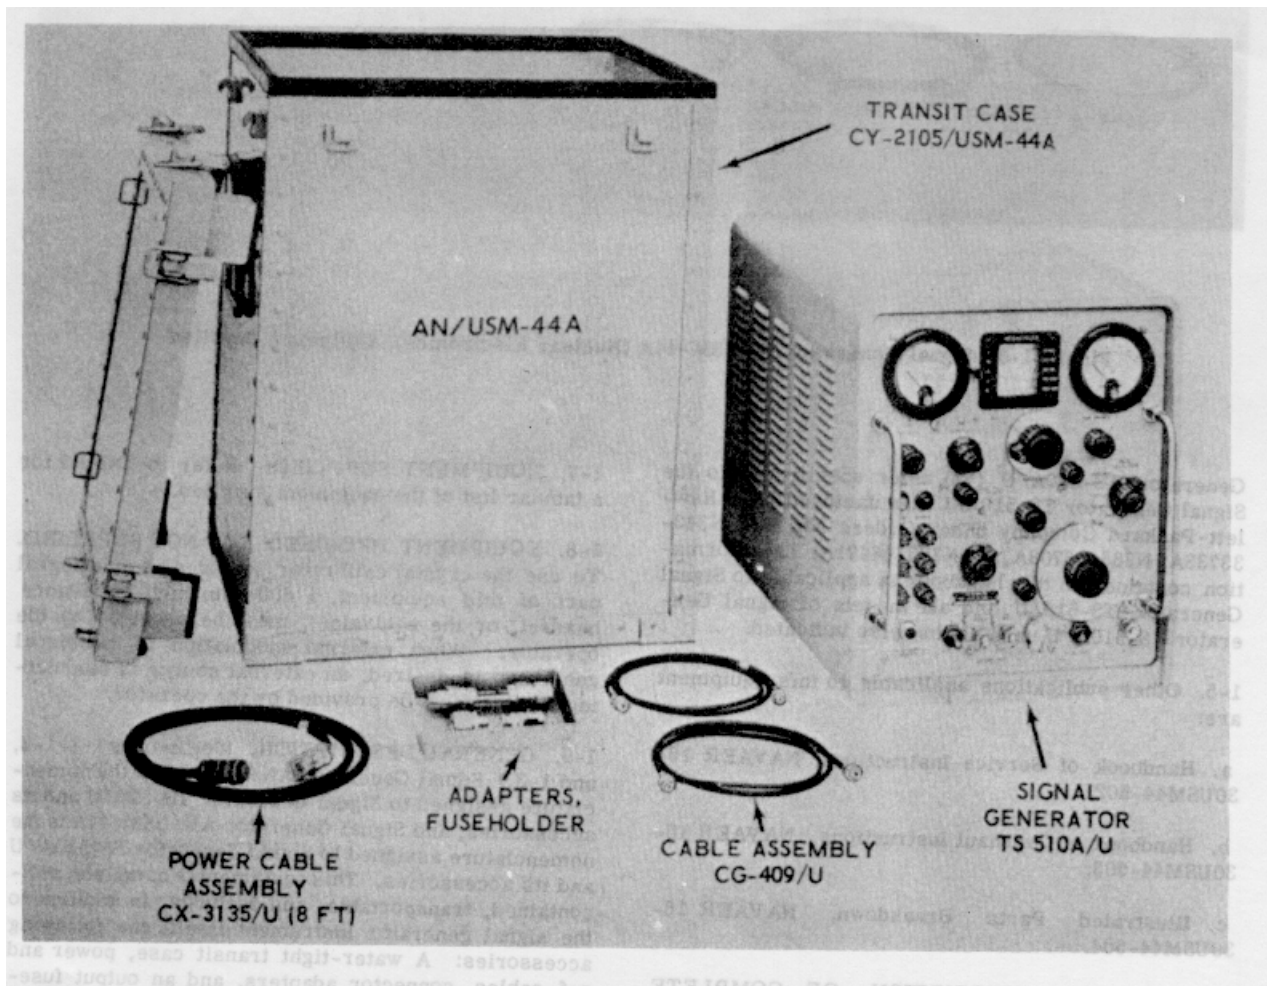
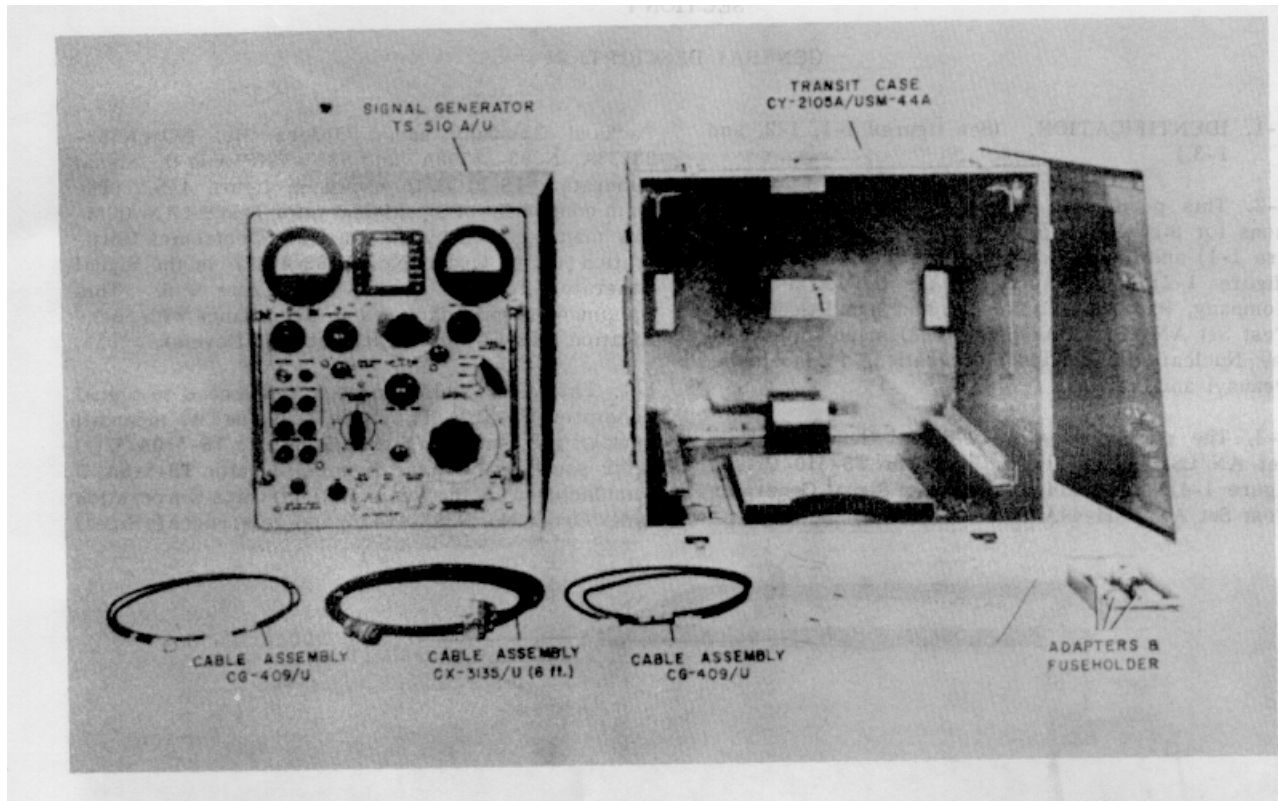

Figure 1-2. Signal Generator AN/USM-44A (Hewlett-Packard), Equipment Supplied
Figure 1-3. Signal Generator AN/USM-44A (Nuclear Electronics), Equipment Supplied
**1-2.** This publication comprises operating instructions for Signal Generator Test Set AN/USM-44 (figure 1-1) and Signal Generator Test Set AN/USM-44A (figure 1-2) manufactured by the Hewlett-Packard Company, Palo Alto, California, and Signal Generator Test Set AN/USM-44A (figure 1-3) manufactured by the Nuclear Electronics Corporation, Philadelphia, Pennsylvania.
Signal Generator AN/USM 44A (Hewlett Packard). (See figure 1-2.)
Signal Generator AN/USM-44A (Nuclear Electronics). (See figure 1-3.)